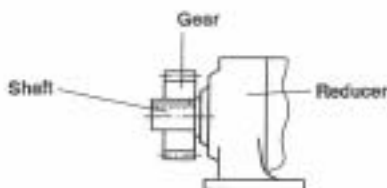
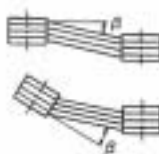

Fig.7
Fig.8
(2) When chain sprocket and gear are used
- Install sprocket and gears so that their point of load application will be closer to the gearmotor or reducer side with respect to the length of the shaft. (Fig.7)
(3) When V – belt is used
- The parallelism and eccentricity (β) between two pulleys should be within 20° . (Fig.8)